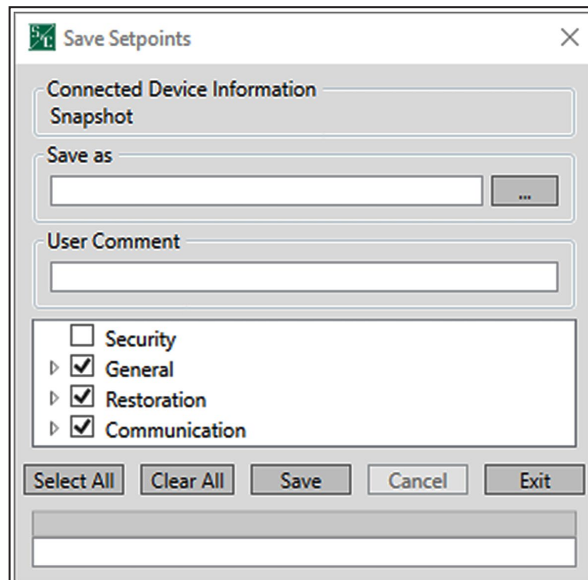

Figure 11. The Save Setpoints dialog box.
- STEP 2.** In the Save Setpoints dialog box, click on the **Select All** button followed by the **...** button. See Figure 11.